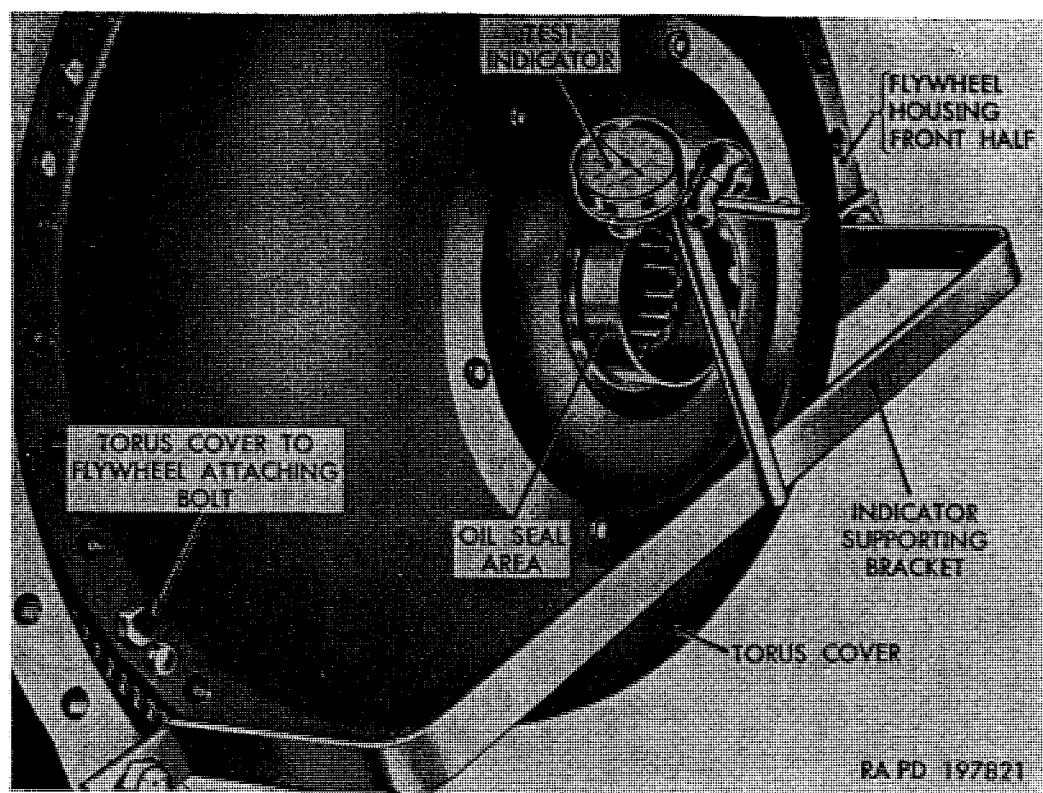

Figure 212. Checking torus cover runout, using test indicator and supporting bracket B7950331.
- (2) Attach test indicator supporting bracket B7950331 (fig. 212) to flywheel housing front half, using two $\frac{3}{8}$ -16 x 1 cap screws.
- (3) Assemble a suitable dial-type test indicator to supporting bracket B7950331 so tip of indicator set rocker arm attachment contacts oil seal area of torus cover neck as shown in figure 212.
- (4) Turn engine and observe reading on dial of indicator. Runout must not exceed 0.005 inch.
- (5) If runout exceeds 0.005 inch ((4) above), on vehicles having same size flywheel dowels only, remove torus cover from flywheel. Remount torus cover on flywheel 180° from original